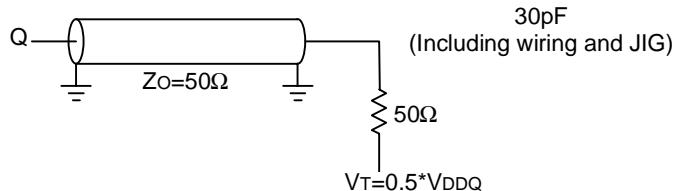

Fig.1 Output load
- Output load ..... Fig.1
Note26.Test conditions is specified with the output loading shown in Fig.1 unless otherwise noted.